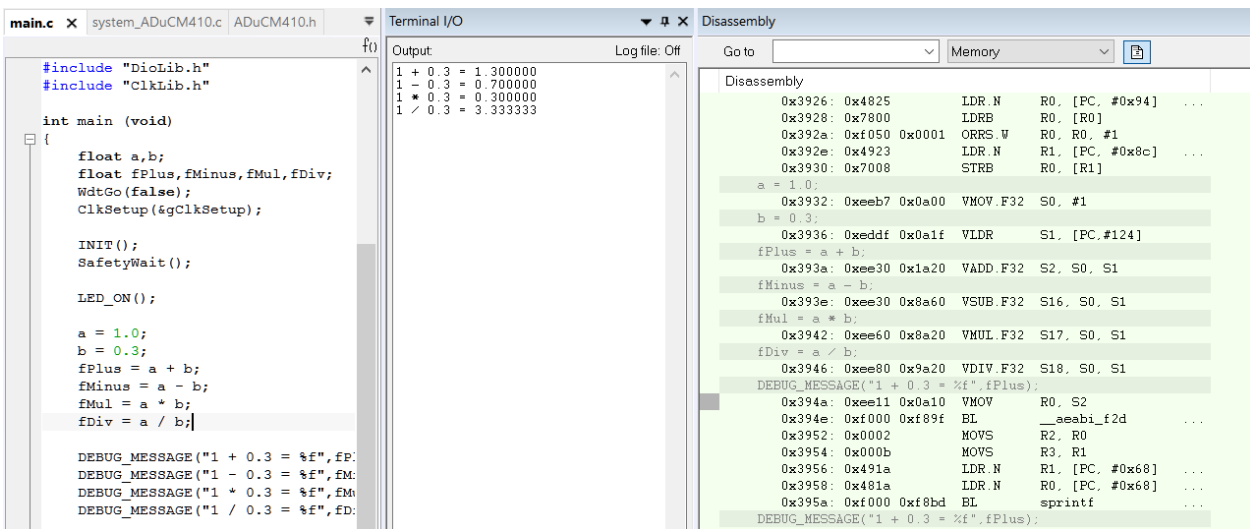

Figure 26. IAR FPU Example Program Output
- After setting the **Floating point settings** options, run the FPU example program. Running the debug mode causes the **Output** section in the **Terminal I/O** window to display fractional values of the variables, as shown in Figure 26.